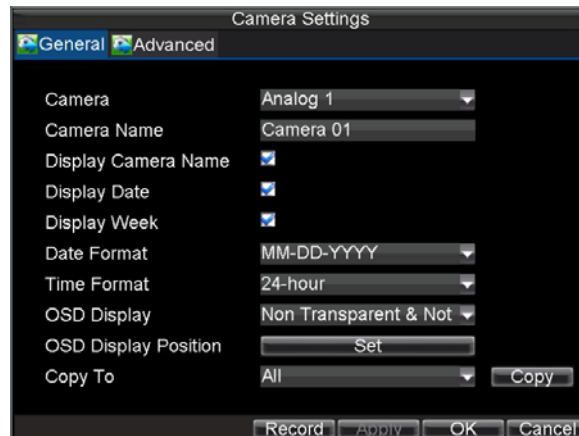

Figure6. OSD Settings Menu
3. Configure desired OSD settings, as shown in Figure 6.